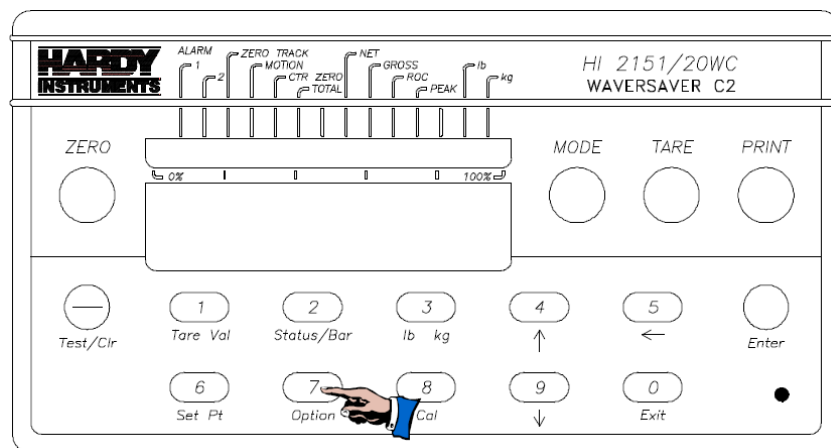

Figure 3-1
1. Press the 7/Option button. (See Fig. 3-1) The first option appears.